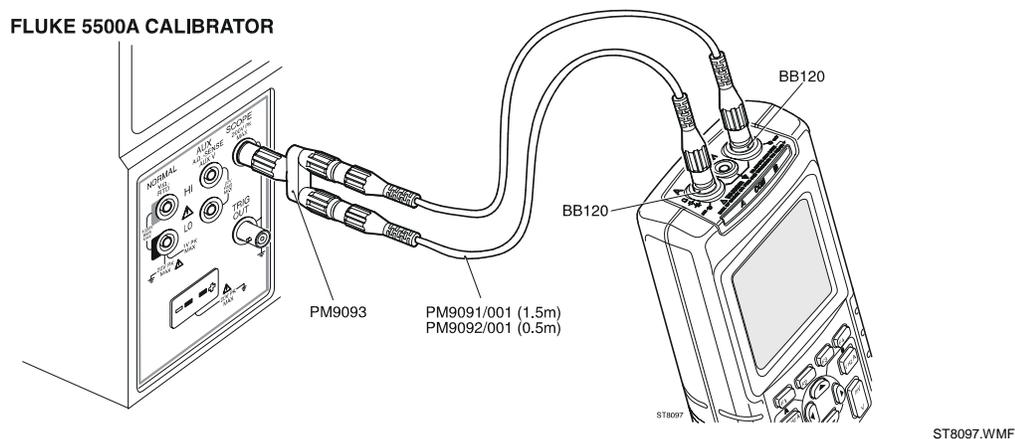

Figure 4-3. HF Gain Calibration Input Connections
2. Connect the test tool to the 5500A as shown in Figure 4-3. Do NOT use 50Ω terminations!